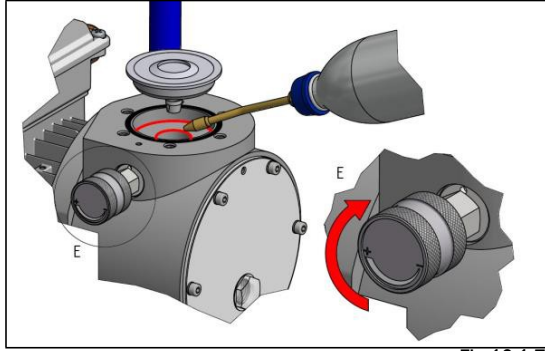

Fig.10.1.7
3. (Fig.10.1.7) Lift membrane and using the oil bottle, fill the casing with hydraulic oil until the red marked area is just covered. Now reinsert the membrane. Now just turn the pressure control valve clockwise.